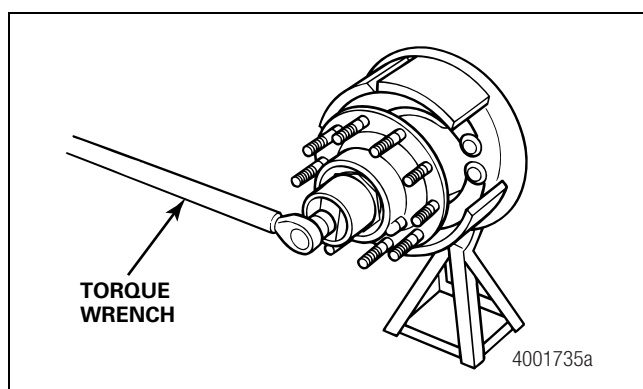

Figure 3.32
- Use a torque wrench to tighten the inner nut to 700-750 lb-ft (952-1020 N•m) while rotating the hub a minimum of five complete turns. Because of the high torque values required, using a torque multiplier is helpful. Take care when you install the inner nut to ensure the socket does not damage the hub outer seal. Figure 3.32.